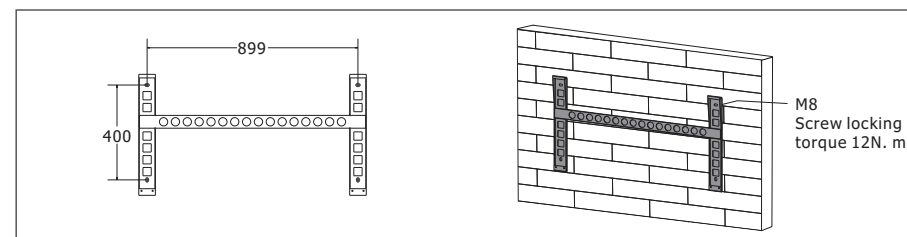

Figure 3.4-1 Install Inverter hanging plate
Step 1. Please use the mounting bracket as a template to drill 5 holes (10mm in diameter, and 80mm in depth). Use M8 expansion bolts in accessory box and fix the mounting With a 12mm drill bracket onto the wall tightly. The installation of inverter support is shown in Figure 3.4-1.